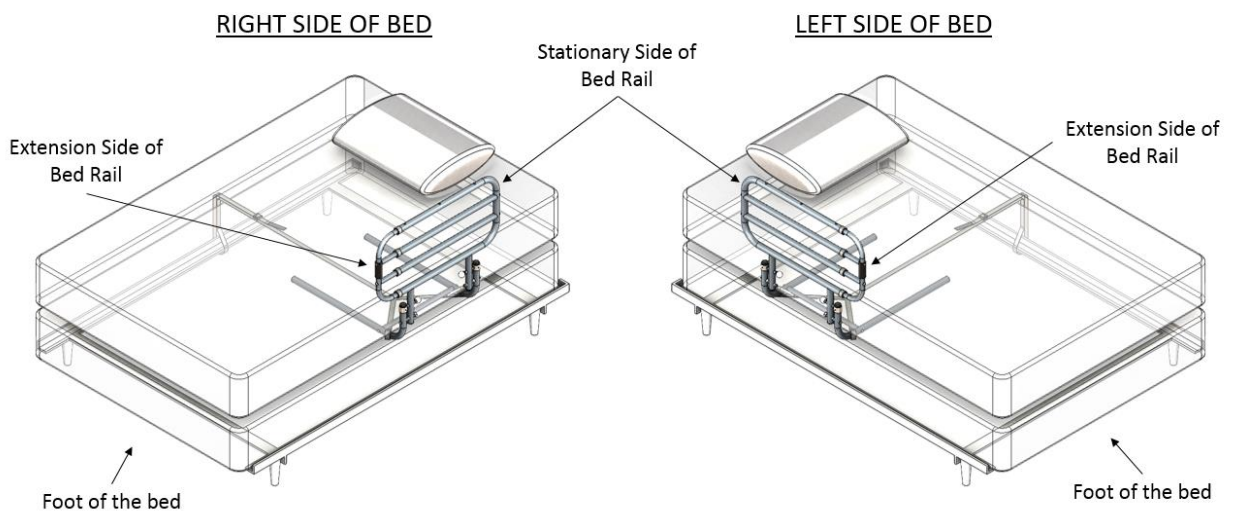

FIGURE 6
- Align the MAIN HANDLE so the extension side of the bed rail is closest to the foot of the bed, as shown in Figure 6.